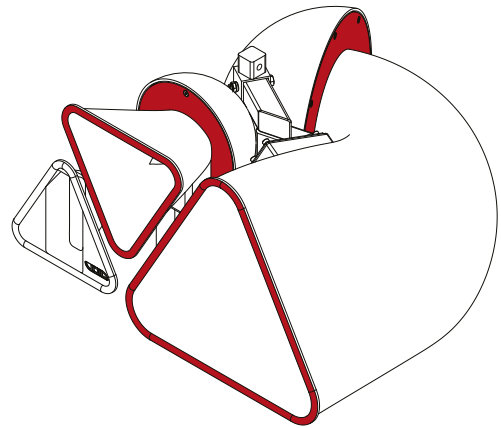

Figure 2.1: Safe handling positions diagram
- To remove from the transport case, each person should hold the Tri Motion on each side, with one hand on the edge of the horn flare, and the other supporting the weight of the drivers to the rear, as shown in figure 2.1